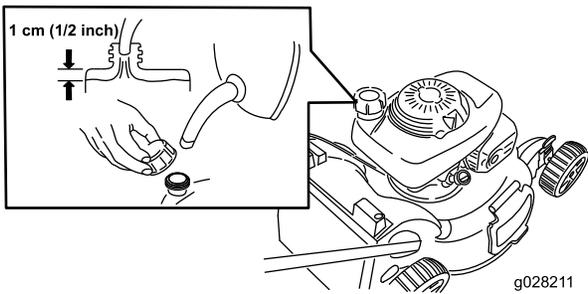

Figure 15
1. Clean around the fuel-tank cap, and remove the cap from the tank (Figure 15).